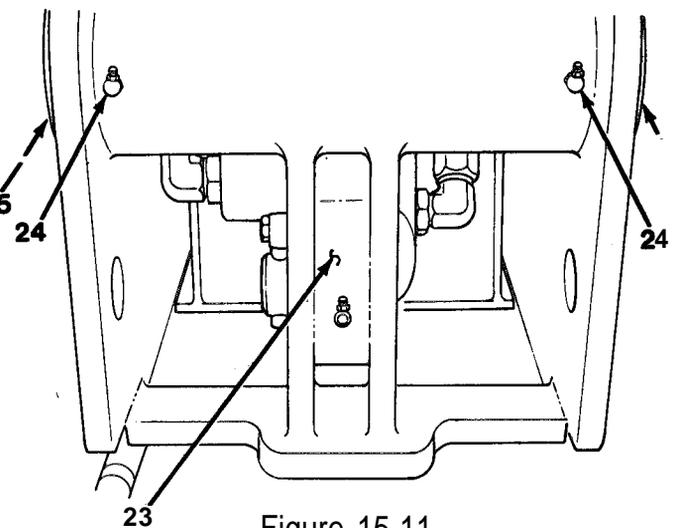
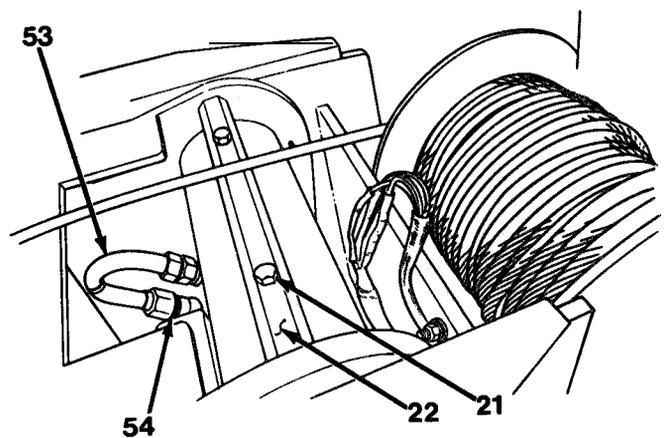

Figure 15-11
Figure 15-18
7. Submerge two bushings (25, Figure 15-11) in liquid nitrogen to cool them.
8. If removed, using a press, install two bushings (25) in base boom section.
9. Install two grease zerks (24).
10. Install two O-rings and elbows (54) and tubes (53, Figure 15-18) on boom extend cylinder 25
11. Install boom extend cylinder (23, Figure 15-11) in boom tip section.
12. Install wear bar (22) and two capscrews (21, Figure 15-18).